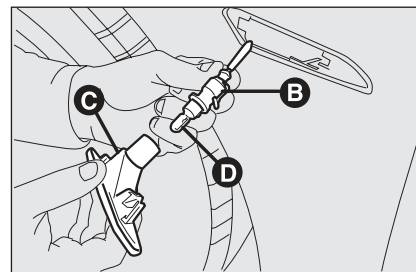

fig. 31
- ☐ turn the bulb holder **B-fig. 31** counterclockwise and remove it from lens **C**.